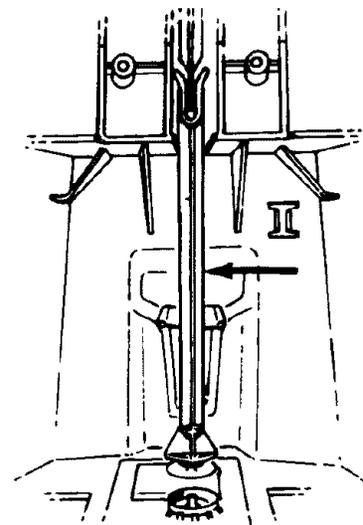

Fig. 29
1. Trapped in place by handle cover. Lift out to remove. (Fig. 29)